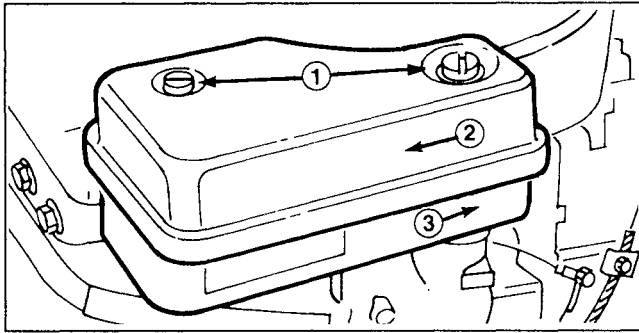

Figure 10
2. Remove two screws and lift complete air cleaner assembly off carburetor (Fig. 10).
1. Remove the screws holding air cleaner in place and lift complete air cleaner assembly off carburetor (Fig. 10).